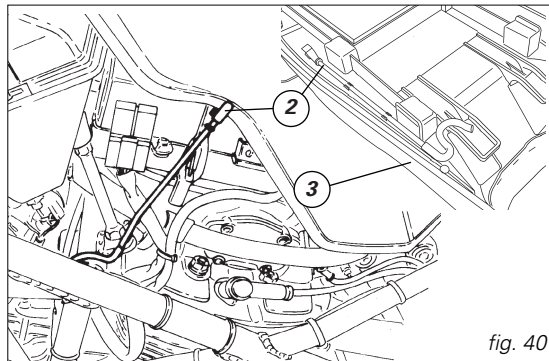

fig. 40
Remove the seat (page 28) and lift the hook (1). Lift the tank and unhook the service rod (2, fig. 40) from its seat under the seat. Place the tank onto the rod. When you have finished, reverse the above procedure to refit.